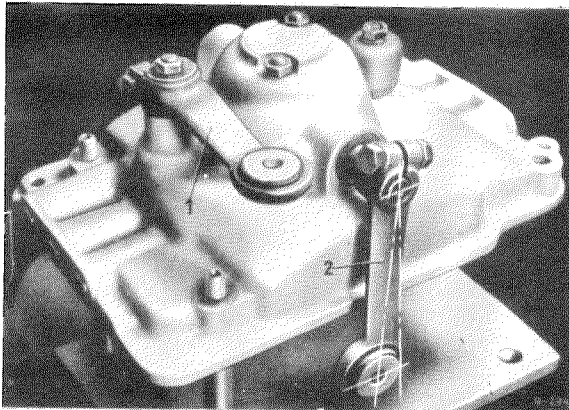

Figure 26 — 4/1
1. Shift the shifting shaft lever (2) to neutral (see Fig. 26 — 4/1) and unscrew the hexagon screws for the transmission case top cover.